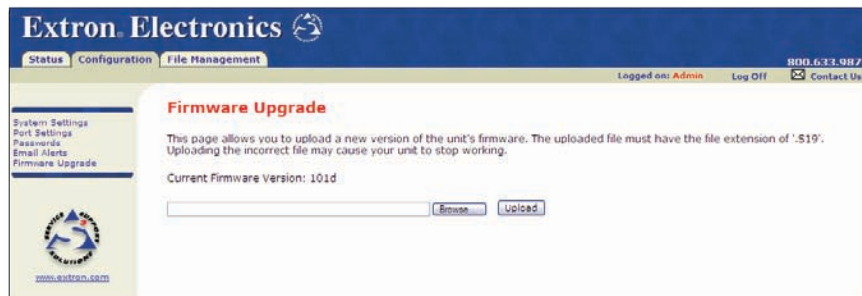

Figure 19. Firmware Upgrade Screen
1. Click **Firmware Upgrade** on the menu (on the left side of the window). The Firmware Upgrade screen (figure 19) is displayed.